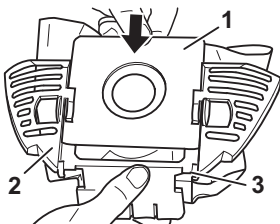

Fig. 19
6. Push the new dust filter bag (Fig. 19/1) into the dust bag holder (Fig. 19/2) as shown, so that it rests against the bottom mounting angles (Fig. 19/3) of the dust bag holder.